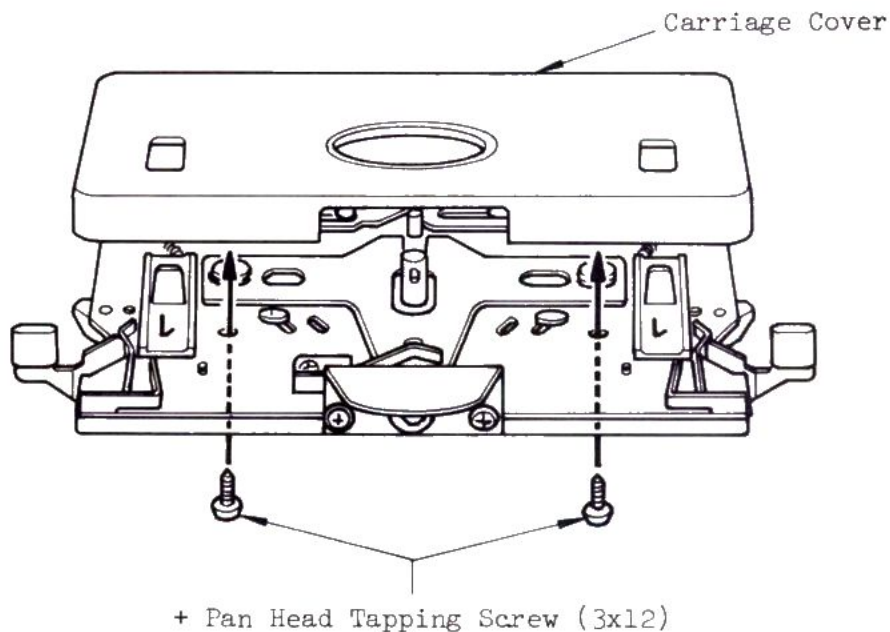

Fig. 9
1. Place the Carriage Cover in position and fasten it with two + Pan Head Tapping Screws (3x12) as indicated in Fig. 9.